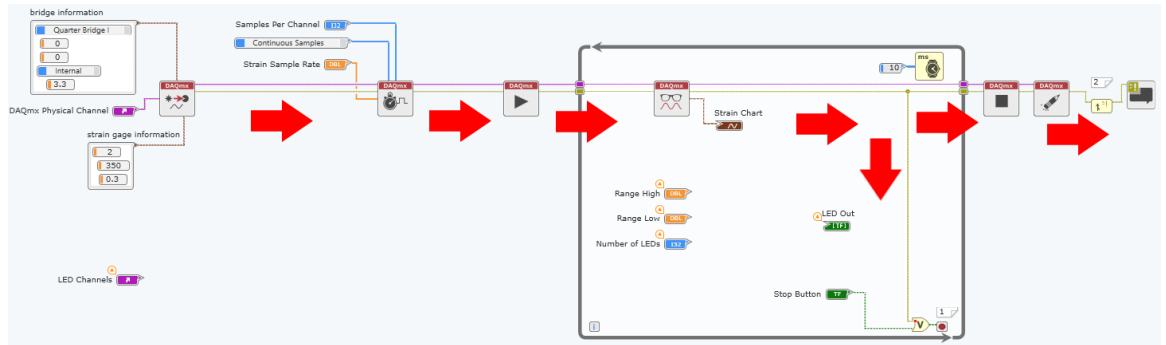

Figure 5-19 To finish the strain acquisition code, wire the task and error wires through the code.
34. Wire the purple task and yellow error wires through the code as shown in Figure 5-19. This will pass the task values and any errors that may arise through the code.